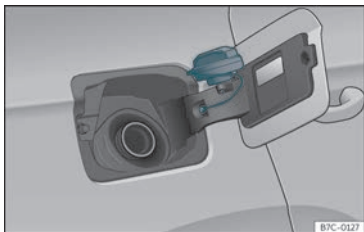

Fig. 210 Fuel tank flap with tank cap attached.
- Place it in the space on the hinge of the open flap»» **Fig. 210**.